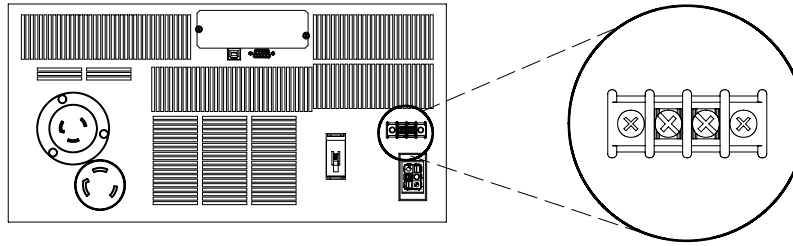

Figure 13. REPO Connector
2. Connect the switch or circuit to the REPO connector on the UPS rear panel using insulated 0.75 mm²–0.5 mm² (18–20 AWG) wire. See Figure 13.